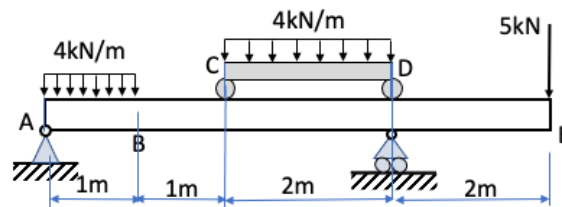

Figure Q5
- 5 For the structural model shown in Figure Q5, what is the magnitude of the maximum bending moment along section ABC of the lower beam AE.